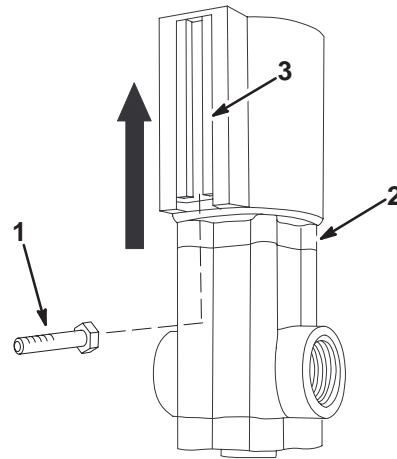

Figure 3
6. Slide the head of the (3) bolt (6 x 16 mm) to the top of the mounting groove in each solenoid valve (Fig. 3).